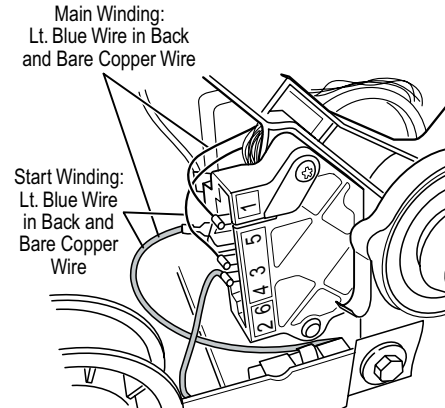

Figure 9. Main and start winding measure points.
- Using Figure 9, check for the resistance values of the motor's Main and Start winding coils as shown below.